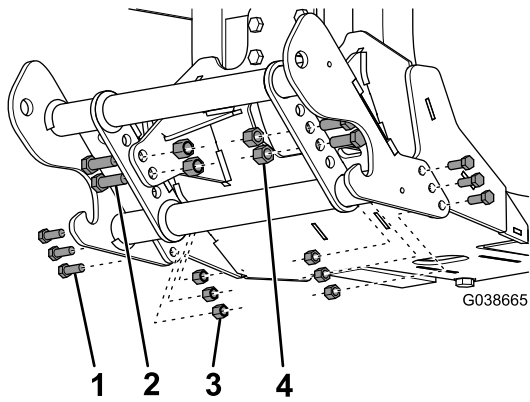

Figure 3
6. Mount the pushbeam to the plow skid plate using 4 bolts (1/2 inch), 4 nuts (1/2 inch), 6 bolts (3/8 inch), and 6 nuts (3/8 inch) as shown in Figure 3.
8. Apply the BOSS decal to the top tube on the pushbeam (Figure 3).